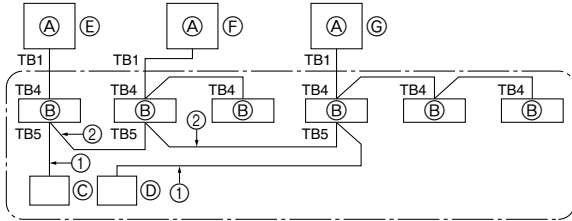

Fig. 8-1
8. System control (Fig. 8-1)
① Wiring from the Remote Control